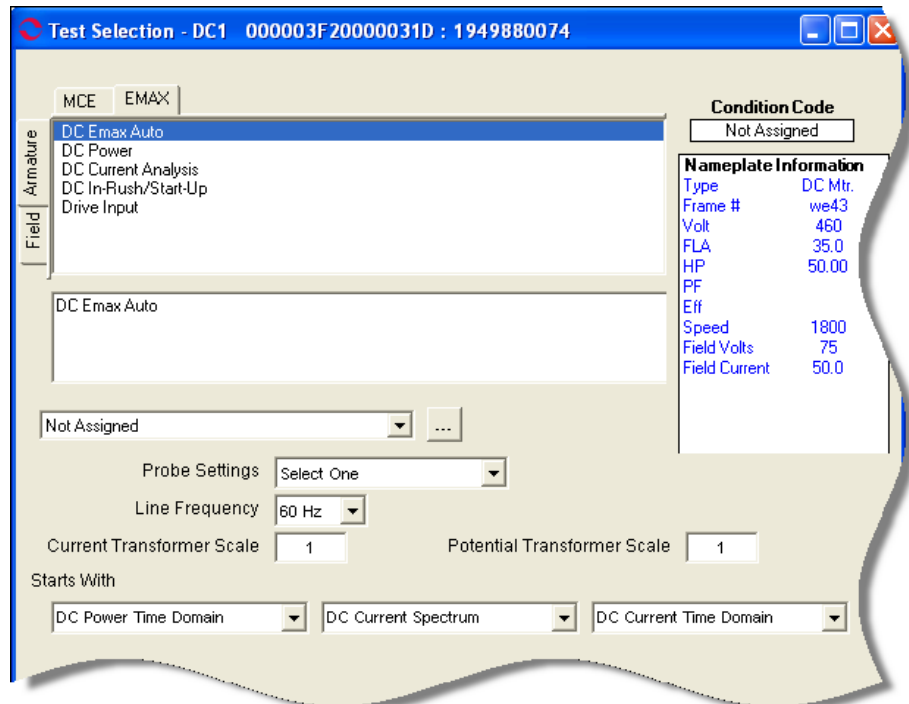

Figure 6-29: DC EMAX Auto Test Selection Window
- Select the Test Selection icon  on the toolbar. The Test Selection window, shown in Figure 6-29 opens.